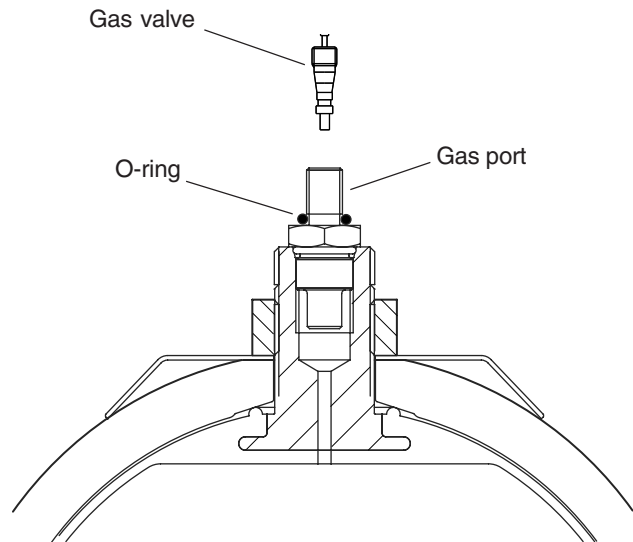

Figure 2 Gas Port – BAE Bladder Accumulator
**Do not** attempt to release gas pressure in the accumulator manually. Remove the protective cap from the gas valve and connect a UCA charging and gauging kit to the gas valve according to the instructions supplied with the kit. Discharge the gas side of the accumulator. Remove the UCA assembly from the accumulator, then unscrew and remove the gas valve from the gas port, as shown in Figure 2.
Fit the O-ring, supplied with the GAE pressure gauge adapter, over the open end of the gas port and position on the port shoulder, as shown in Figure 2. Screw the GAE pressure gauge adapter onto the gas port and tighten securely.